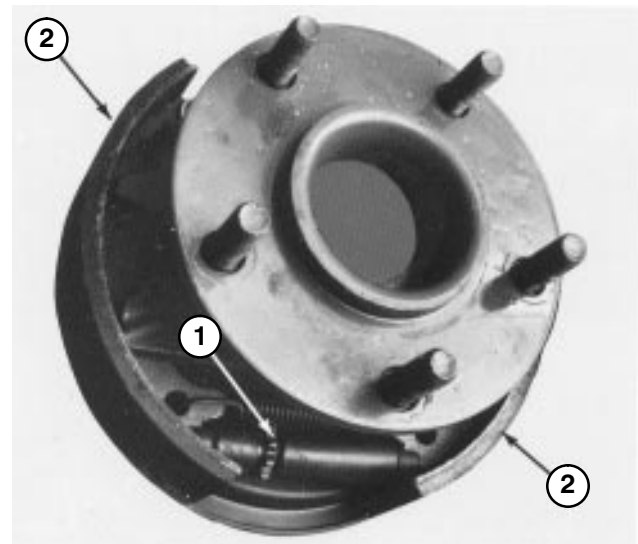

Figure 50
6. Using a brake adjusting tool or screwdriver, rotate star nut down until brake drum locks because of outward pressure of brake shoes (Fig. 50).